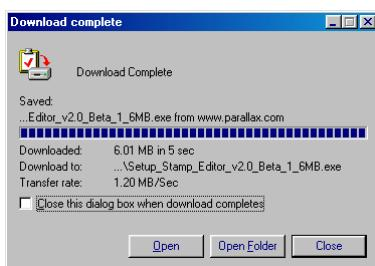

Figure 1-12
- ✓ If you downloaded the BASIC Stamp Editor Installer from the Internet, click the Open button on the Download Complete window shown in Figure 1-12.